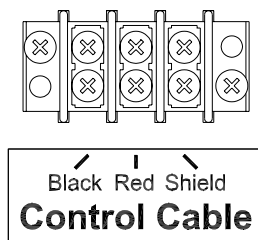

Figure 10 Control Cable Wiring Diagram
3. Connect the control cable to **Control Cable** terminal block on the lower access panel junction chassis according to figure 10.